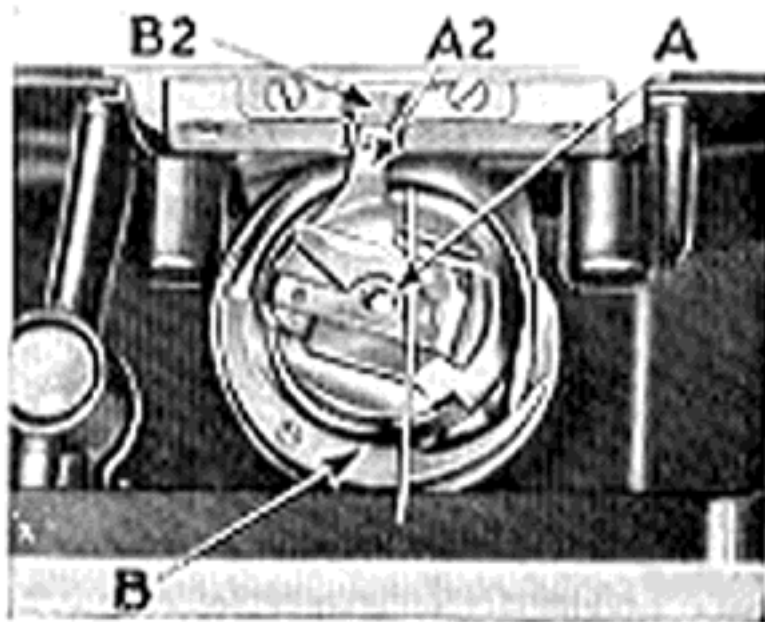
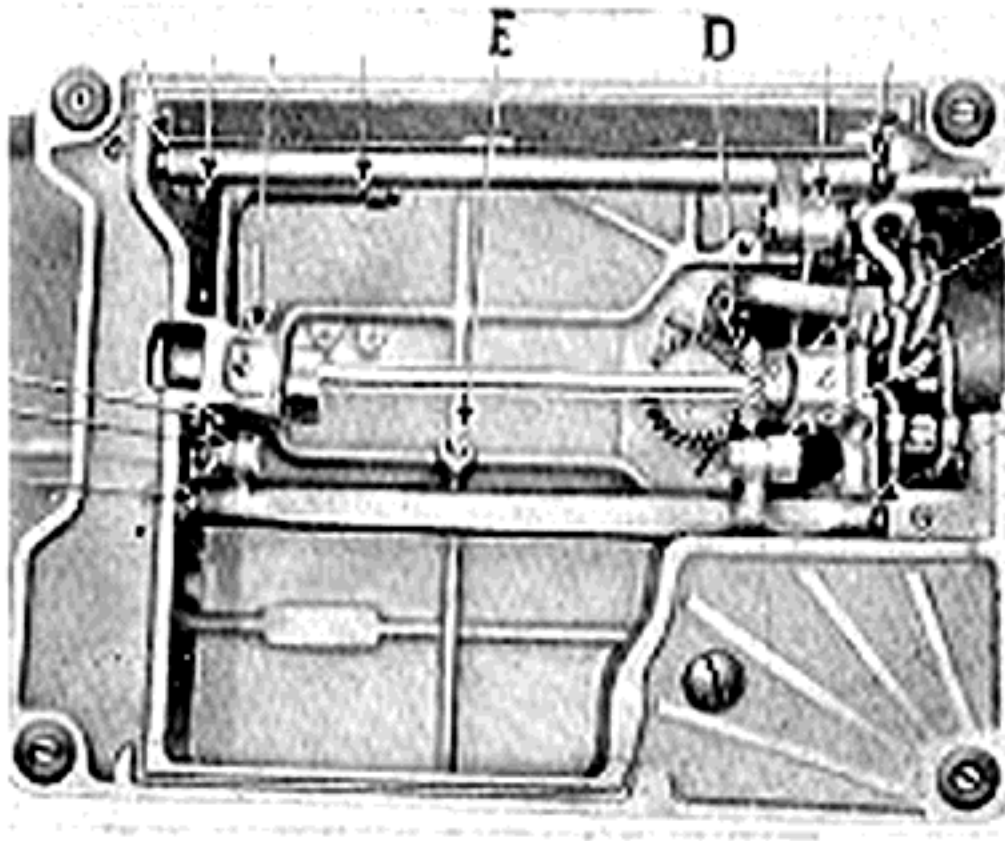

Fig. 12
Fig. 20
To Replace the Bobbin Case (See Fig. 12)
Occasionally apply a drop of oil at the hook bearing at B in Fig. 12. reach the parts underneath the bed turn the machine over on its side. Remove the thumb nut and felt washer from the screw (E, Fig 20) and take off the cover plate. Apply oil at the holes and bearings indicated in Fig. 20, and occasionally apply a small quantity of Singer Motor Lubricant to the teeth of the gears (D). Replace the bed cover plate, washer and thumb nut, being careful not to fasten the latter too tightly.